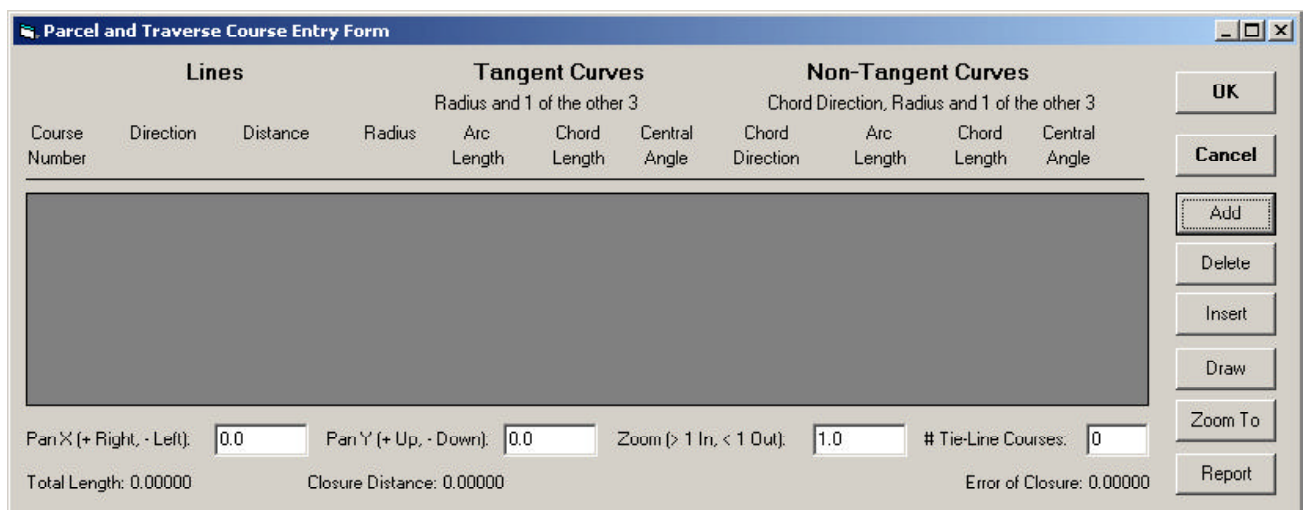

Figure 9
➤ **7** Click at the **OK** button to confirm the parcel identification entry, and continue with the operation by displaying the *Parcel and Traverse Course Entry Form* dialog box shown in Figure 9.
begins. For this sample, the value that should be entered in the # Tie Line Courses parameter of Figure 9 should be two.
- f. Shown in Figure 16 is the termination query dialog box that is displayed if the Cancel button, see Figure 9, is selected when a parcel/traverse definition is defined. Selecting the Yes button results in the command terminating without creating any features. Selecting the No button returns the user to the Parcel and Traverse Course Entry Form dialog box.
- i. To recall a parcel/traverse definition that exists in an ASCII text file, the user can select the Report button in an empty Parcel and Traverse Course Entry Form dialog box, see Figure 9. Select the Browse button, navigate to the desired folder, specify the desired filename and then select the Open button. The tool will then add the appropriate rows to the dialog box. The Draw button can be selected to display the parcel/traverse.